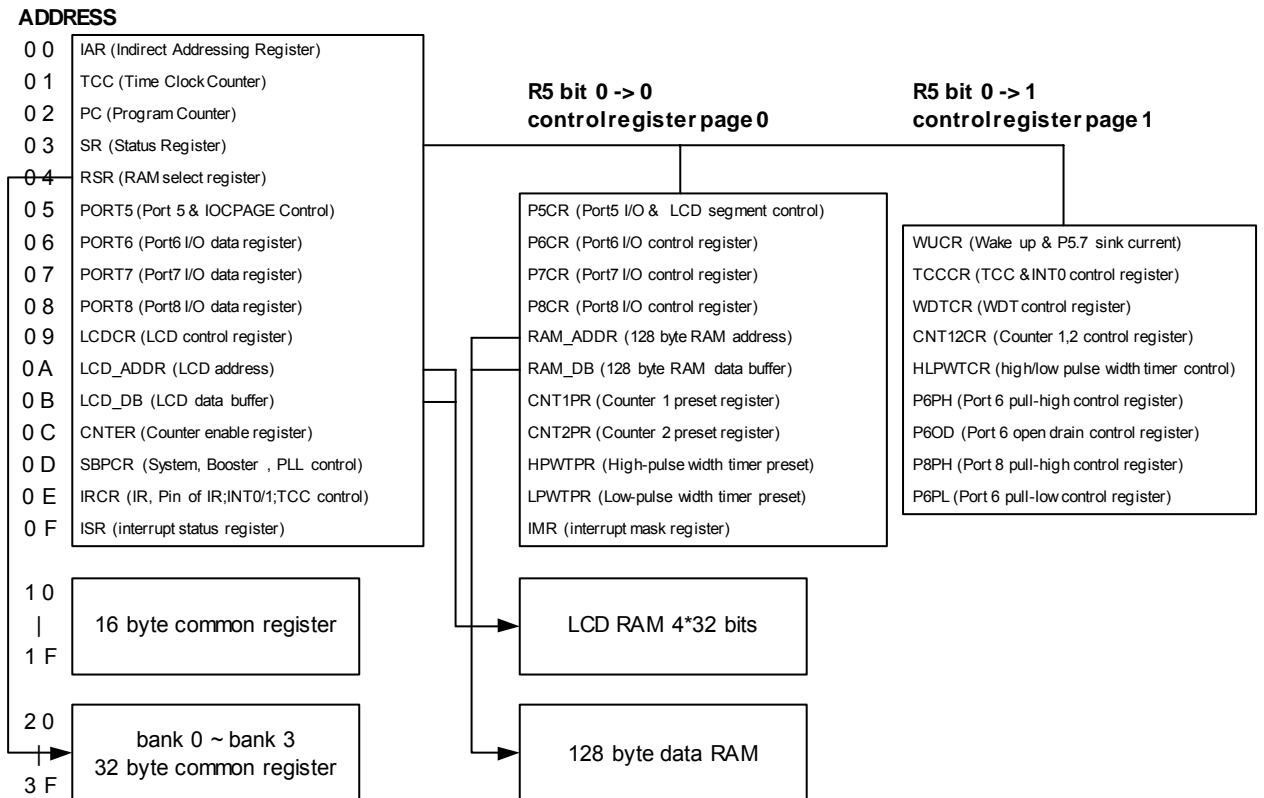

Fig. 6-2 Data Memory Configuration
**Bits 7 ~ 6 (RBS1 ~ RBS0):** determine which bank is activated among the four banks. See the data memory configuration in Fig. 6-2. Use the BANK instruction (e.g. BABK 1) to change banks.